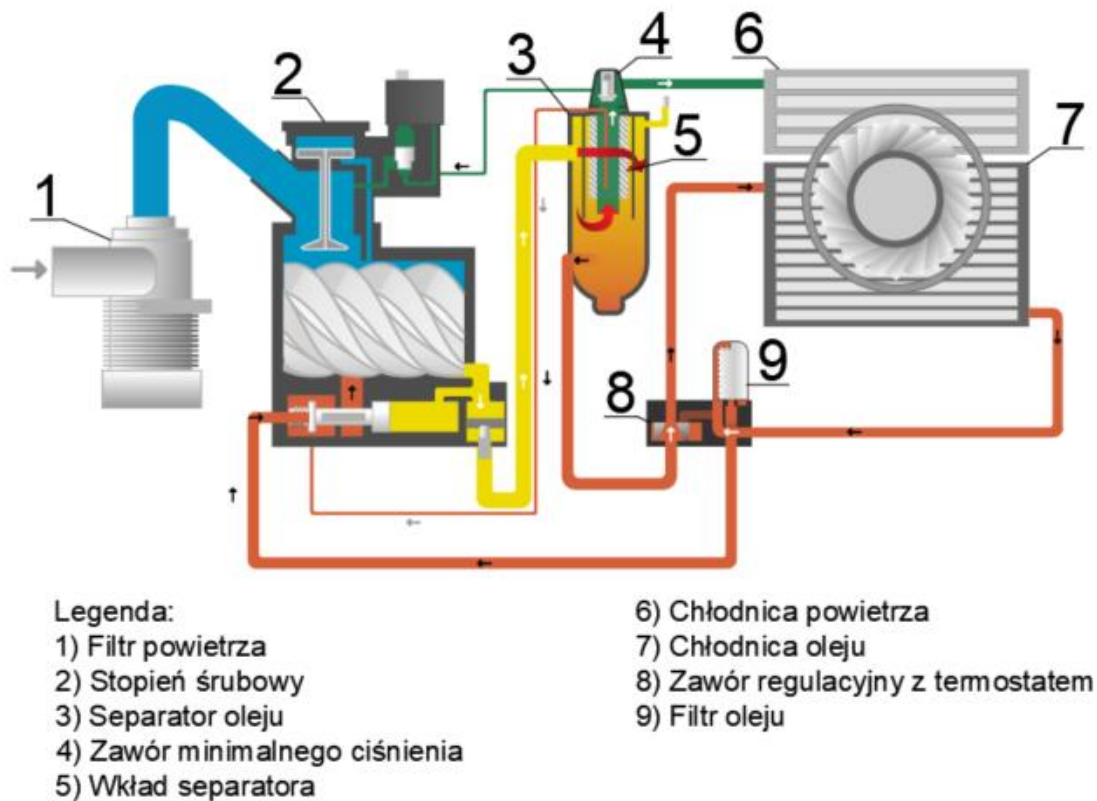

Figure 1. Compressor process diagram.
Figure 1 shows the process diagram of the compressor. Ambient air is drawn in through the filter (1), then directed through the suction valve. Oil, previously cleaned in the filter (9), is injected into the compressed air in the screw stage (2). The oil injection ensures adequate lubrication, sealing and cooling of the screw stage (2). The oil/air mixture is compressed in the spaces between the screw rotors and then directed into the oil separator tank (3), where most of the contained oil is precipitated. From the oil separator, the air flows through the separator cartridge (5) and the minimum pressure valve (4) to the air cooler (6). The oil accumulating in the oil separator (3) flows through a thermostatic control valve (8). When the oil temperature is high, it is cooled in the oil cooler (7) and further pumped to the screw stage. During the start-up phase, the thermostatic valve (8) bypasses the cooler by feeding the oil in a short circuit to the injection bypassing the cooler.